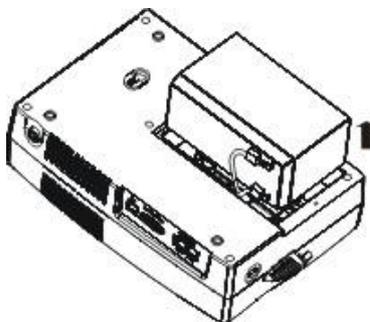

Figure 4
3. Lift the Battery out of the compartment and disconnect the two wires connecting it to the UPS. Replace with the same type of Battery (please refer to Figure 4).